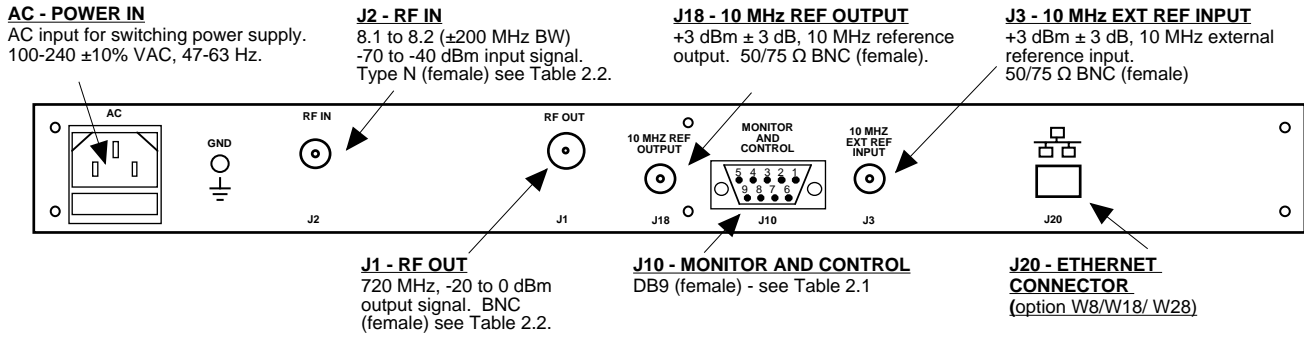

FIGURE 2.2 2016-7984-720-400 Rear Panel I/Os
Figure 2.2 shows the input and output connectors on the rear panel.
1. Connect a -70 dBm to -40 dBm signal to RF IN, J2 (Figure 2.2)